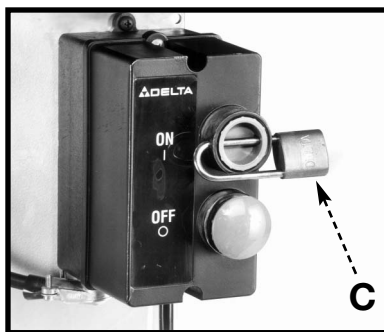

Fig. 20
IMPORTANT: When the machine is not in use, the switch should be locked in the "OFF" position to prevent unauthorized use, using a padlock (C) Fig. 20 with a 3/16" diameter shackle.